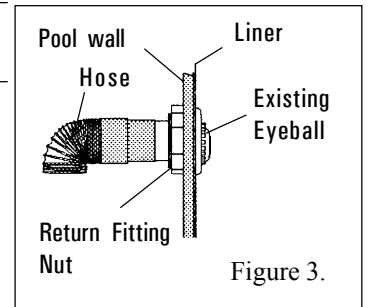

Figure 3.
- Remove the existing eyeball fitting from the return fitting on your pool wall, see Figure 3.